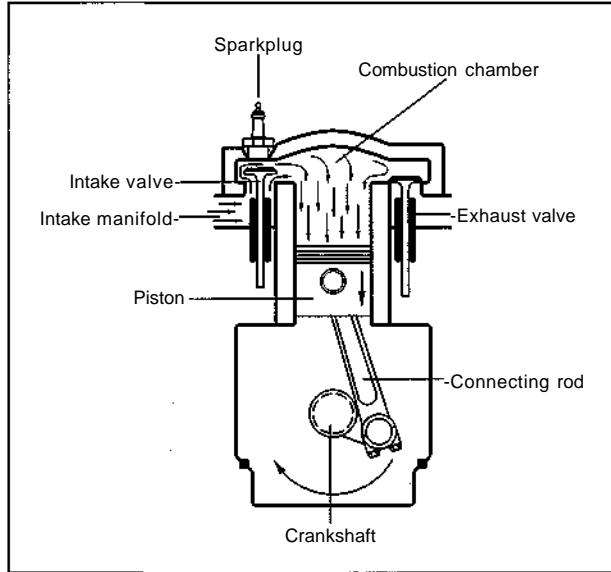
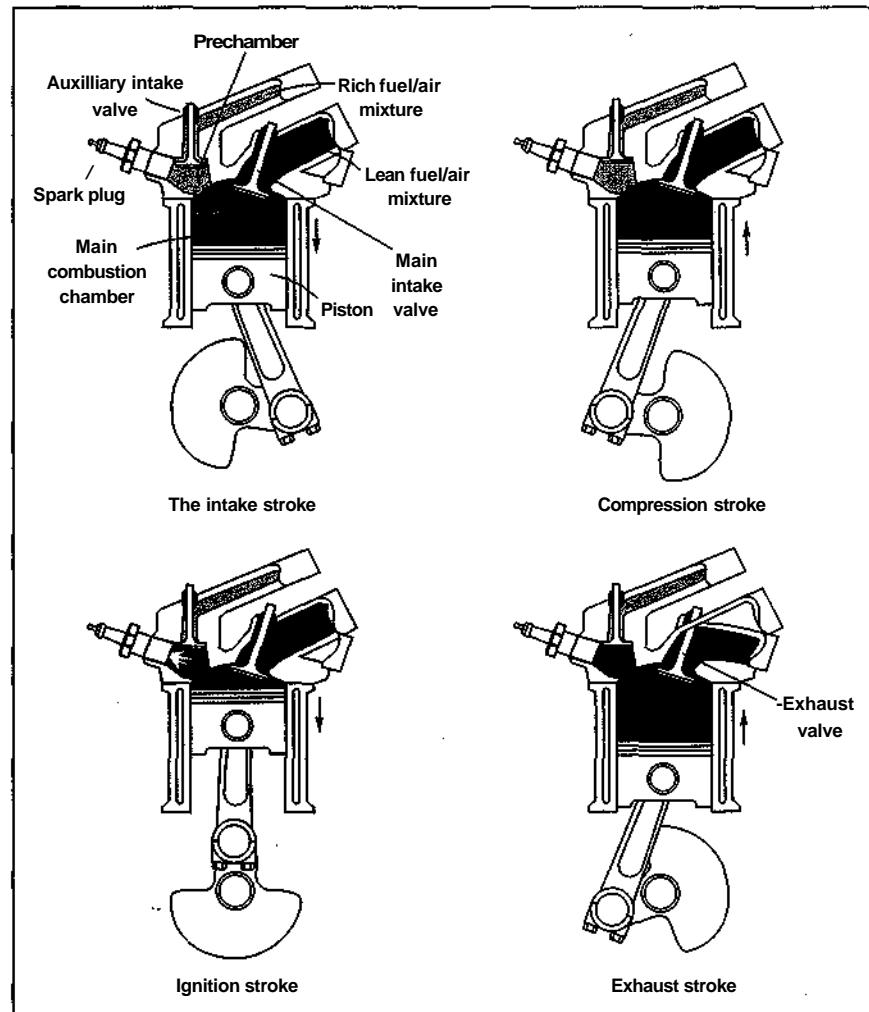

Figure 6-14:
Figure 6-18:
- 1. Intake stroke:** (See Figure 6-14.) When the piston moves *down*, it creates a vacuum in the top portion of the cylinder (where the piston was at the end of its last upstroke). Air can't get in from the bottom of the cylinder because the rings on the piston seal it off. Then the intake valves, conveniently located at the entrance of the intake manifold to the cylinder, open up and let the fuel/air mixture into the cylinder. This mixture rushes in to fill the vacuum left by the piston.
1. **Intake stroke:** The cylinder head has a little chamber, called *& pre-chamber*, which has its own little intake valve. The spark plug is also located in this chamber. On the intake stroke, the little auxiliary intake valve opens and allows a very rich mixture of fuel and air to enter the pre-chamber. On the same stroke, the main intake valve opens up and brings a very lean mixture of fuel and air into the cylinder itself. Figure 6-18 shows a cylinder in a stratified charge engine during the intake stroke. Compare it to the conventional cylinder in Figure 6-14.